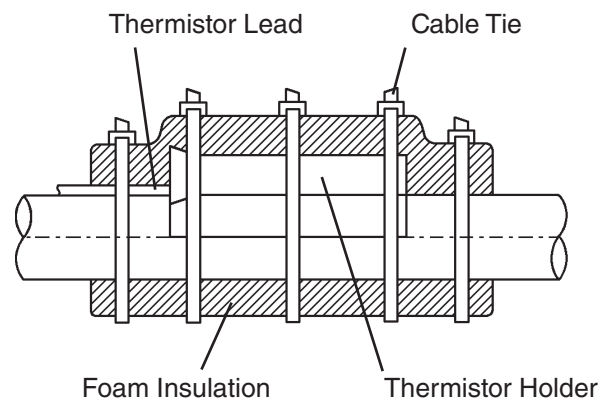

Fig. 4
- 5) Remove the plastic cable ties, foam insulation, thermistor holder, and thermistor. See Fig. 4.